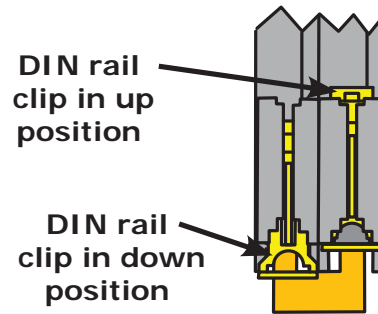

Figure 3, Adjusting the DIN Rail Clips
3. Once the breaker is positioned properly on the DIN rail, push up each DIN rail clip to secure the breaker to the DIN rail (Figure 3).